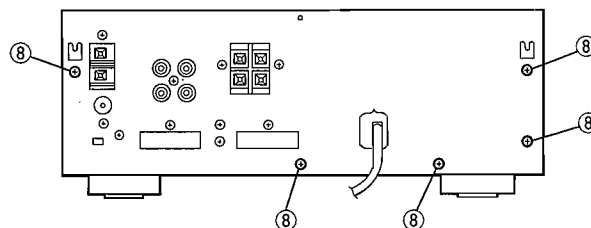

Fig. 3
- Remove 5 screws (⑧) fixing the Rear Panel in Fig. 3.